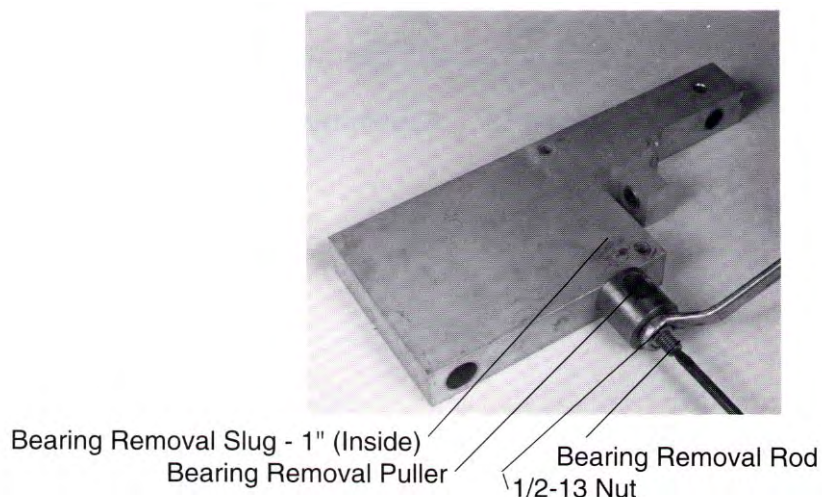

Figure 19a. Remove Bearings from Upper Drive Arm
12. **Remove sleeve bearings from upper and lower drive arms. Refer to figures 19a., 19b. and 20.**